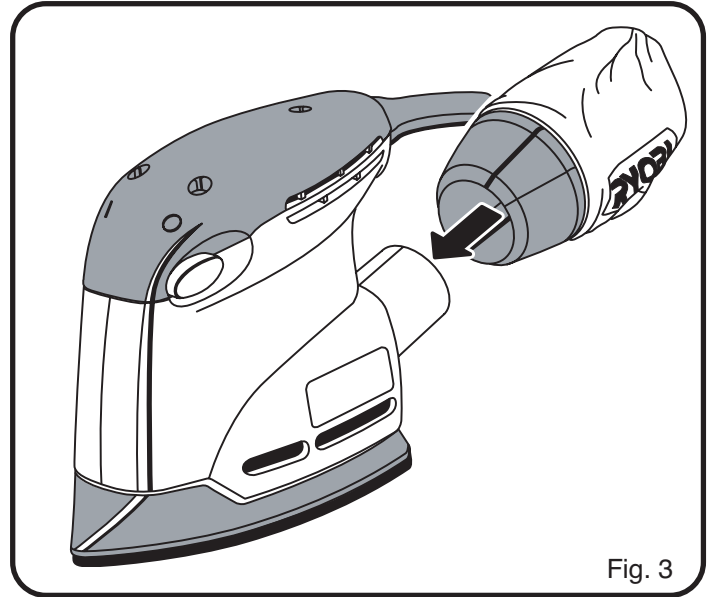

Fig. 3
See *Figure 3*.
- Using a slight twisting motion as shown in figure 3, firmly slide dust bag assembly in blower exhaust on sander.